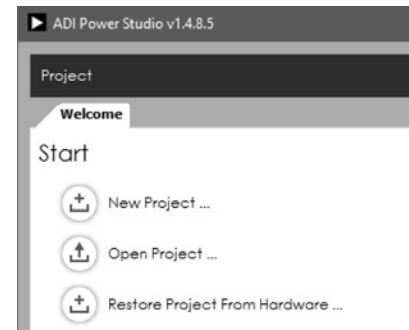

Figure 5. **Restore Project From Hardware...** Button
8. Click the **Restore Project From Hardware...** button (see Figure 5).